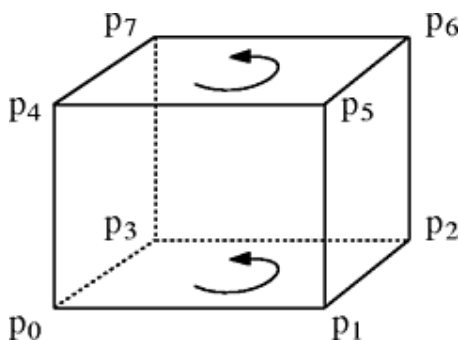

Figure 13.14: Numbering of points in a hexadron with positive volume.
- The `hexas` array describes the actual hexahedra. For each hexahedron, the indices of the eight points and the indices of the six faces it consists of are stored. The numbering of the points is shown in Figure 13.14. Degenerate cells such as prisms or tetrahedra may be defined by choosing the same index for neighboring points.